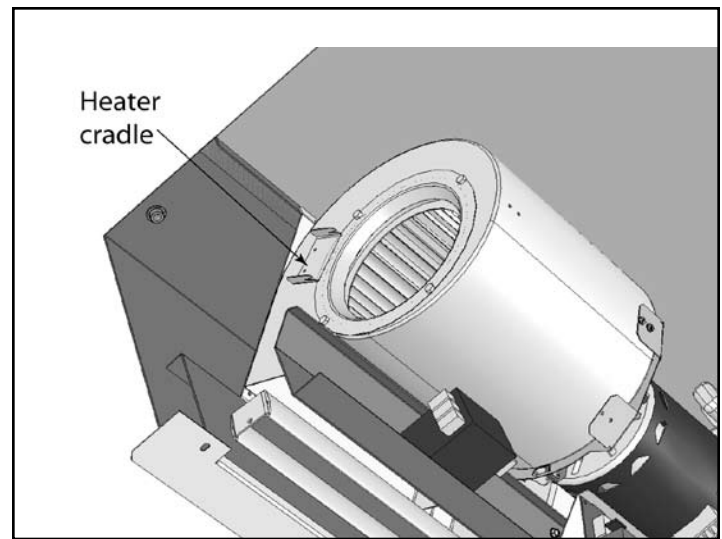

Figure 11
8. To install the new heater, maneuver it into position making sure the frame of the heater sits in its cradle, which is attached to the fan. **See Figure 11.**
9. Reinstall the (2) self drilling screws using the existing holes in the fan housing. As the fan housings are constructed of thin gauge steel, be careful not to strip these holes.